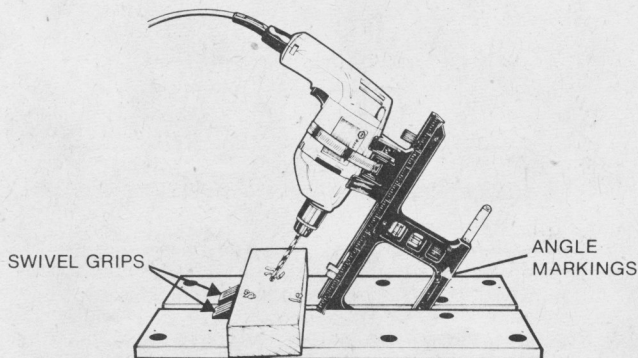

FIGURE 11
- (a) After predrilling the pilot hole, setup the Guidemate in the vise jaws using the angular markings on the Guidemate body. Fig. 11.